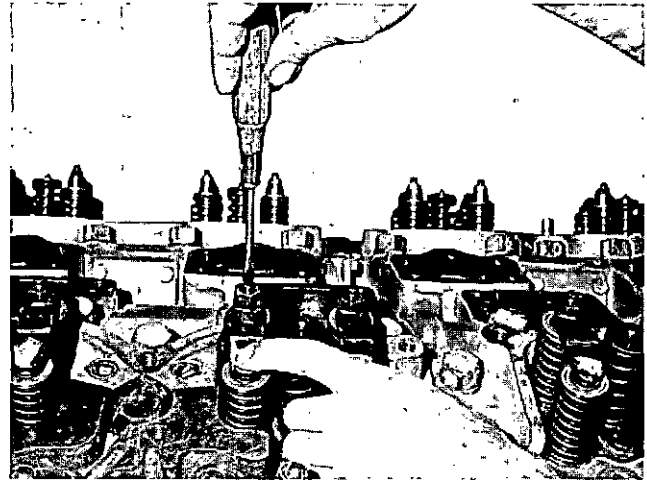

Fig. 5-38. Adjusting crossheads
V12 Series engines have four-valve heads; it is necessary to adjust the crossheads before making valve adjustments. Fig. 5-38.
2. Use light finger pressure at rocker lever contact surface to hold crosshead in contact with valve stem (without adjusting screw). Fig. 5-38.